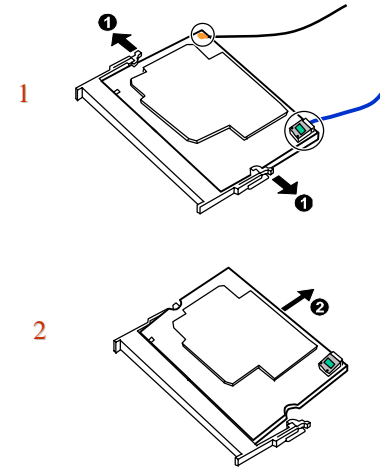

Figure 2-17 Remove the antenna
3. Remove the antenna and disconnect the one cable connecting the wireless card. (Figure 2-17)
4. Pull the retaining clips outwards (❶) and remove the wireless card (❷). (Figure 2-17)